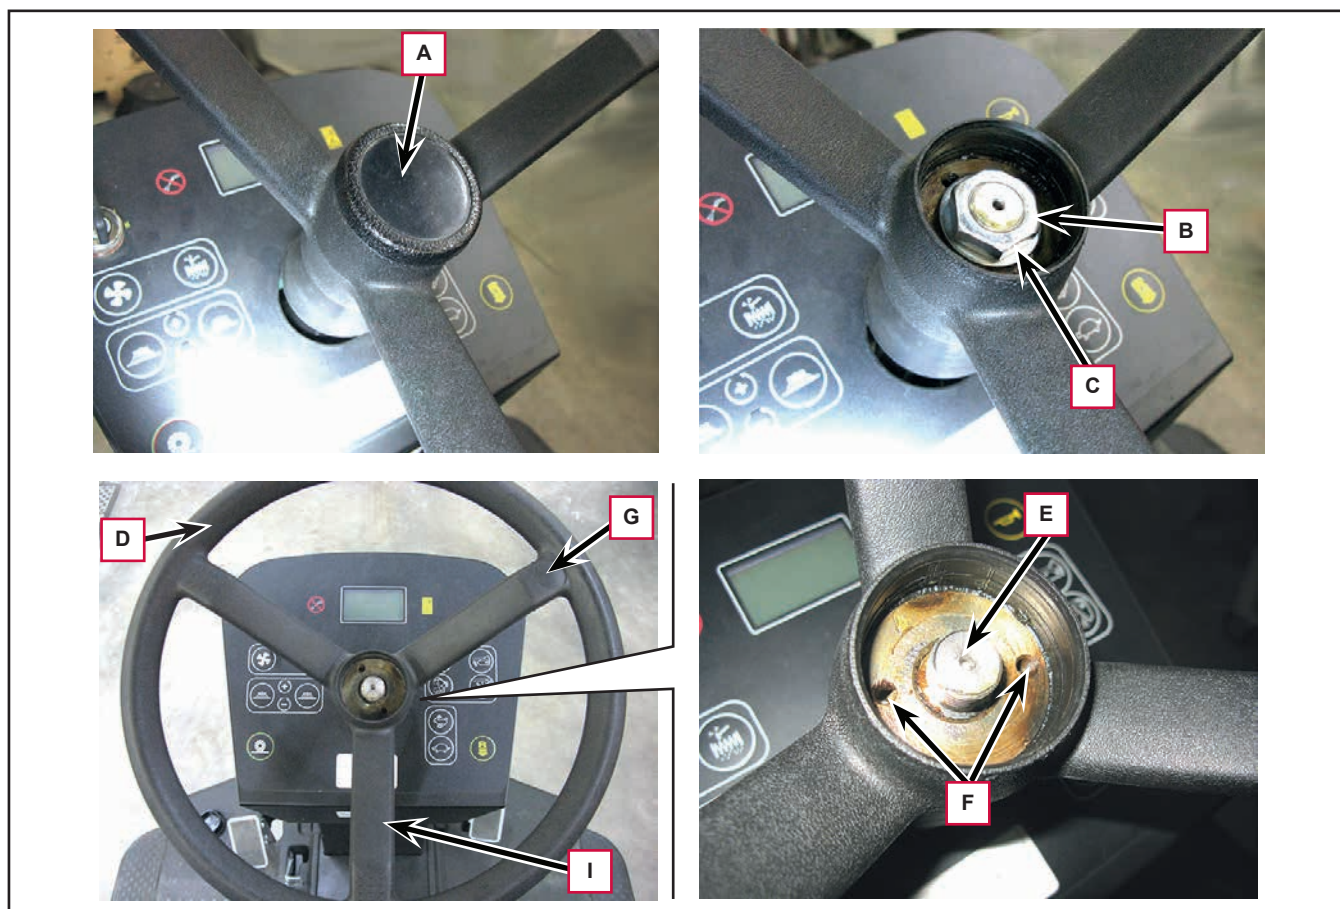

Figure 2
3. Detach and remove the steering wheel cover (A, Figure 2).
4. Unscrew the nut (B) and remove the washer (C).
5. With a suitable puller, remove the steering wheel (D) using the surface (E) of the steering shaft and the threaded holes (F) of the steering wheel.